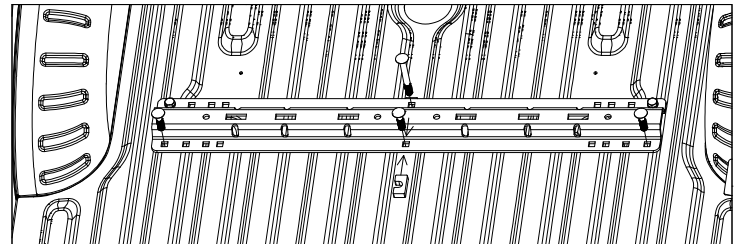
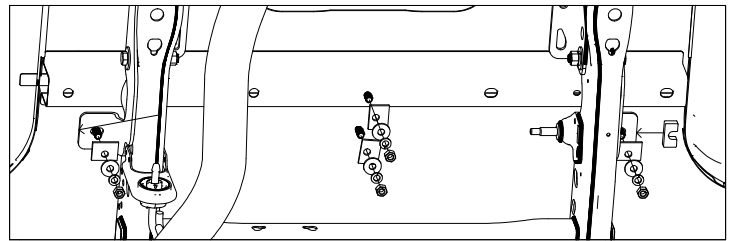

Figure D4: View looking into truck bed from rear of truck.
Figure D5: View looking up at underside of bed.
3. **Install the carriage bolts.** Locate the 1/2" X 4-1/2" carriage bolt, 1/2" X 2" carriage bolts, offset rectangle washers, 1/2" flat washers, 1/2" lock washers and 1/2" finish nuts. Install a 1/2" carriage bolt through the mounting rail in each of the four remaining holes in the rear rail. The 4-1/2" carriage bolt belongs in the forward center hole and should pass through the tube spacer placed under the rail earlier, see Figure D4. Install a U-shaped spacer on the top of the bed under the rail in the two center connections and under the bed above the frame bracket flanges on the two outside connections. Fasten each of the carriage bolts with an offset square washer, 1/2" flat washer, lock washer, and nut, see Figure D5. Hand tighten each nut.